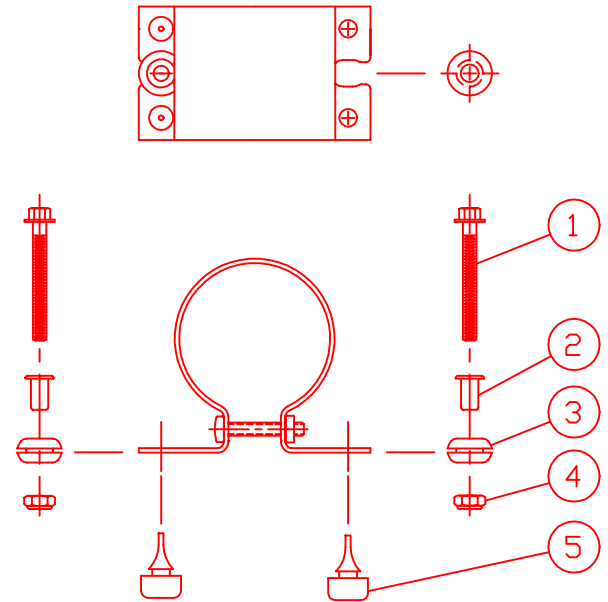

FIGURE 3
7. As shown in figure 3 connect orange (+) wire using terminal (item#10) from compressor motor to either pressure switch terminal. Next, connect fuse holder assembly (item#11) to the other pressure switch terminal. Install other end of fuse holder assembly to "ignition activated" accessory terminal in fuse panel. Attach motor's black wire (-) to metal ground.